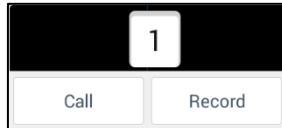

Figure 4.47 Setting a Pattern
- In the PTZ control mode, click  to access the dialog box shown in Figure 4.47.